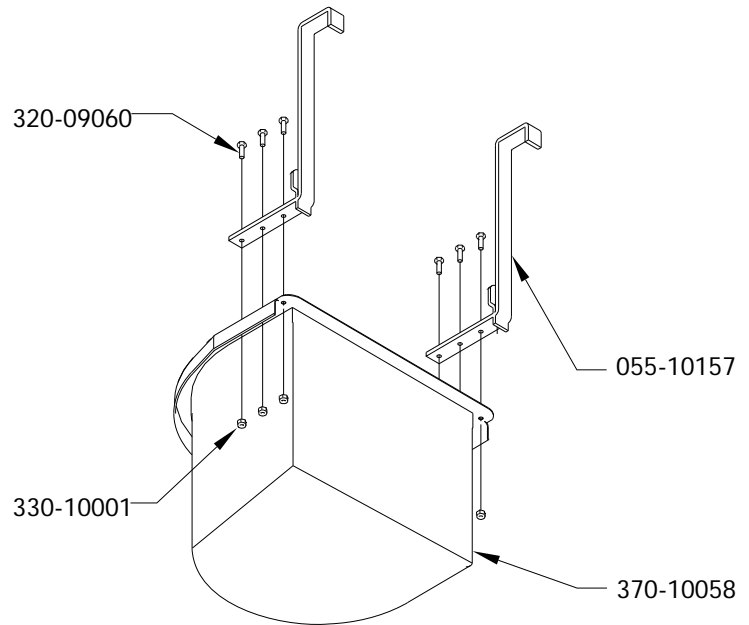

FIGURE 15
Align the holes of the feeder brackets with the holes of the feeder bucket and fasten them together with (6) 3/16" x 3/4" hex bolts and 3/16" lock nuts (see figure 15).